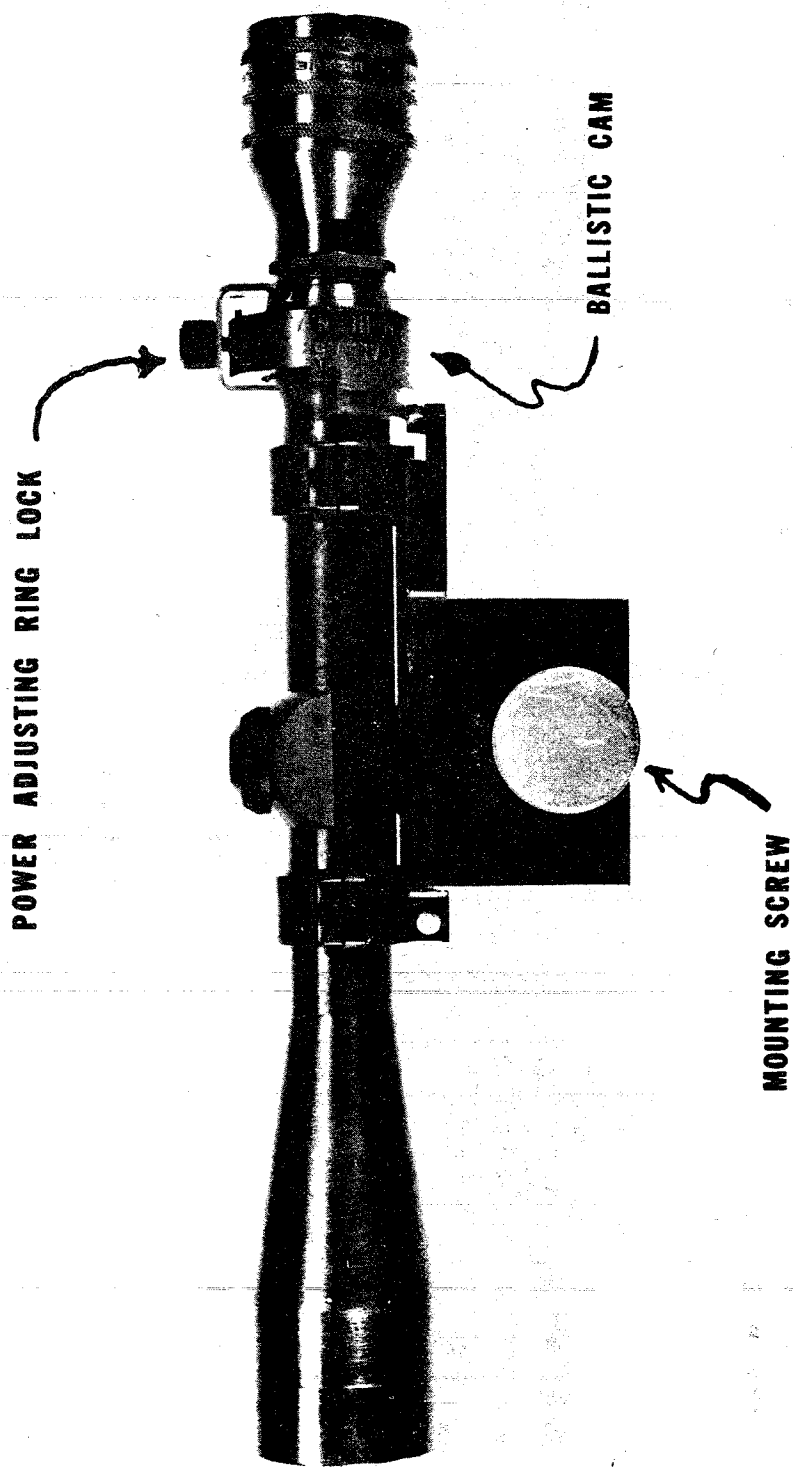
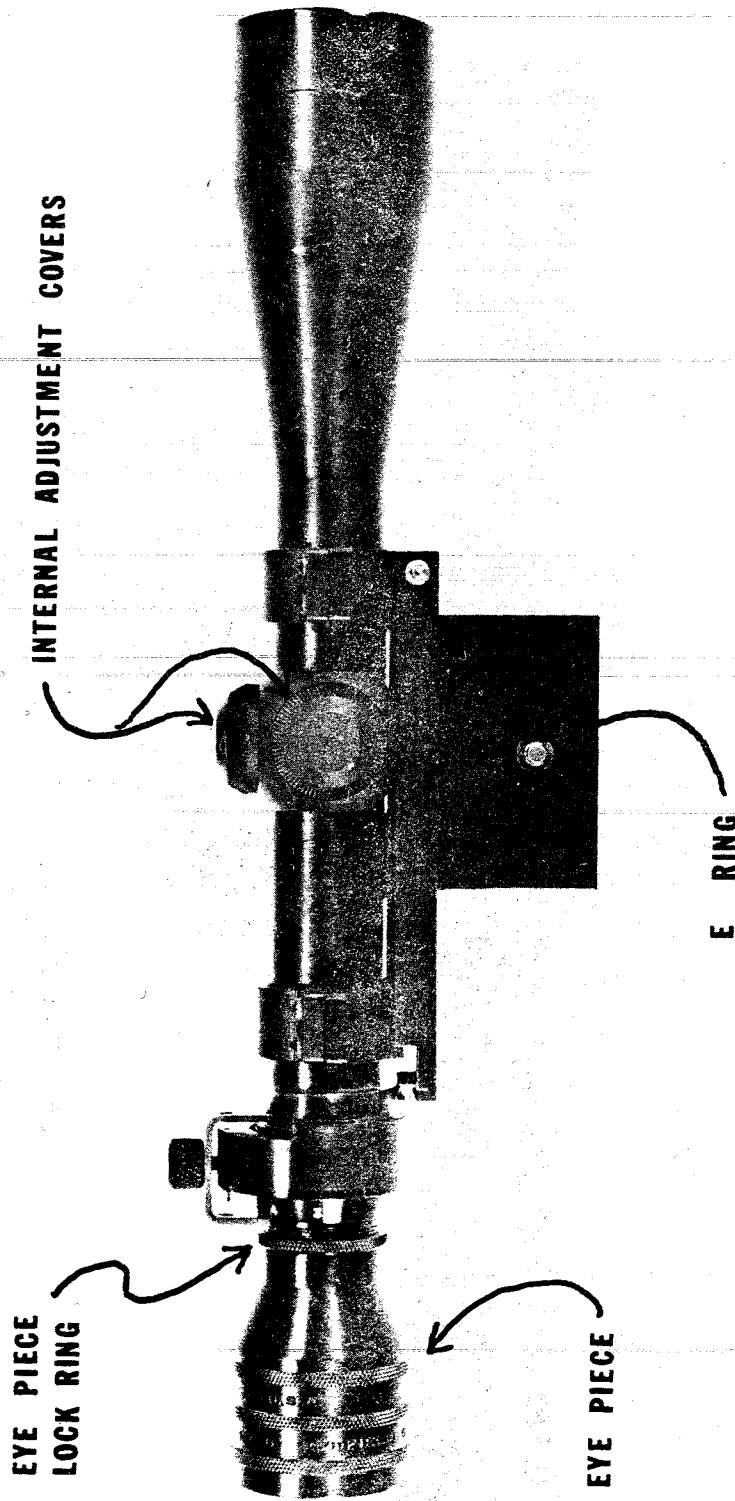

Figure 3. Telescope & Mount - Left Side.
Figure 4. Telescope & Mount - Right Side.
The ART is mounted on the M-14 Rifle using the location provided on the left side of the receiver. Tighten the Mounting Screw (Fig. 3) firmly by hand. DO NOT use wrench or pliers. The mounting screw is held on the mount base by an "E" ring (Fig. 4) to avoid losing the screw.
a. Set the telescope power adjusting ring on 9 power after loosening the adjusting ring lock. (See Fig. 4)
e. LOCK THE EYEPIECE IN FOCUS WITH THE KNURLED LOCKING RING (FIGURE 4). DO NOT PERMIT ANYONE TO CHANGE THIS EYEPIECE POSITION. The reticle of your telescope is now in focus for your eye and should not need to be focused again.
b. Unlock the power adjusting ring lock (Fig. 3) by turning the knurled screw to the left until the lock is loose. Set the telescope power on 3 and relock by tightening with thumb and forefinger.
c. Remove the internal adjustment covers (Fig. 4) which expose the adjustment screws. These can be operated with the fingers, as well as a thin coin or key. The top turret is for vertical adjustment and the side turret is for horizontal adjustment.
The power adjusting ring has a locking device (Figure 3) which must be unlocked before attempting to change the telescope power and must be tightened after adjustment and before firing. If the ring is not locked, repeated firing at any scope setting will cause the setting to change and, in so doing, change the center of impact.